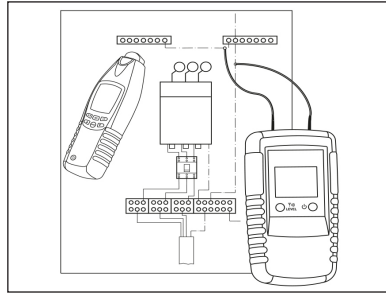

Figure 13:
3. Connect the transmitter "red" terminal to the Neutral bar and the "black" terminal to the Main Earthing Terminal (figure 13). This will allow the neutral conductor of all circuits to be traced.